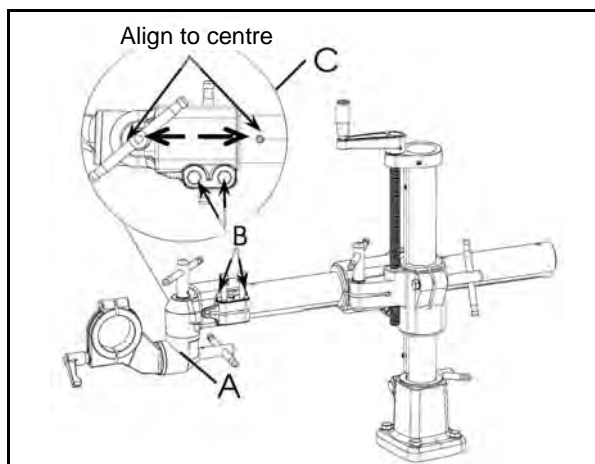

Fig. 9: Fitting the tripod
Step 6: Attach the guide (Pos. A, Fig. 9) to the arm, make sure it is correctly aligned (Fig. 9C), and secure with the two screws (Pos. B, Fig. 9). **Attention:** The alignment is correct when the worktable and the rollers of the feed unit are parallel.